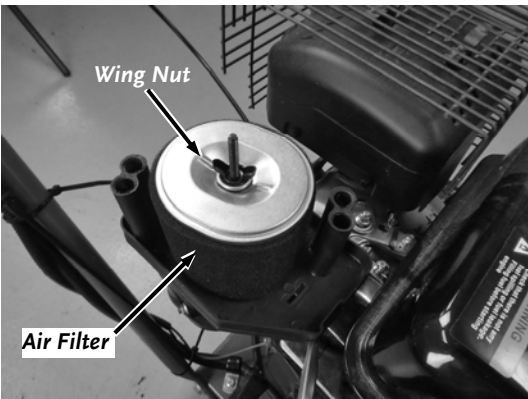

Figure 25
2. Remove the Filter by removing the Wing Nut and lifting the Filter up off the Filter Base (**Figure 25**).